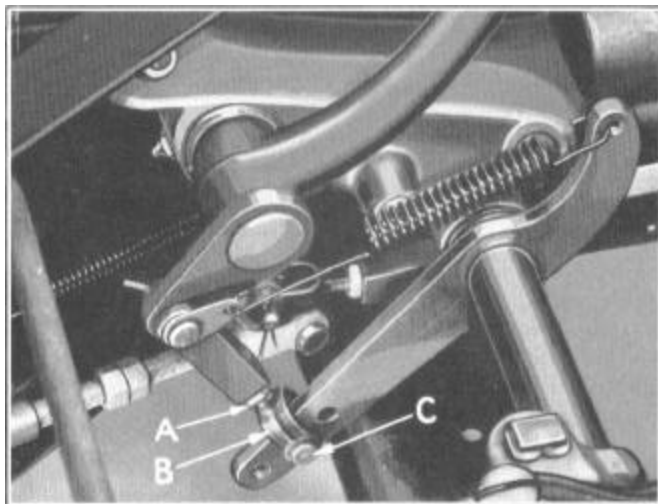

Figure 1
Adjust the clutch pedal by removing clevis pin (C) (Figure 1), loosening nut (A) and turning yoke (B) so that the center of the pedal shank clamp bolt is 1-1/2" from the toe board when the clutch is fully engaged.